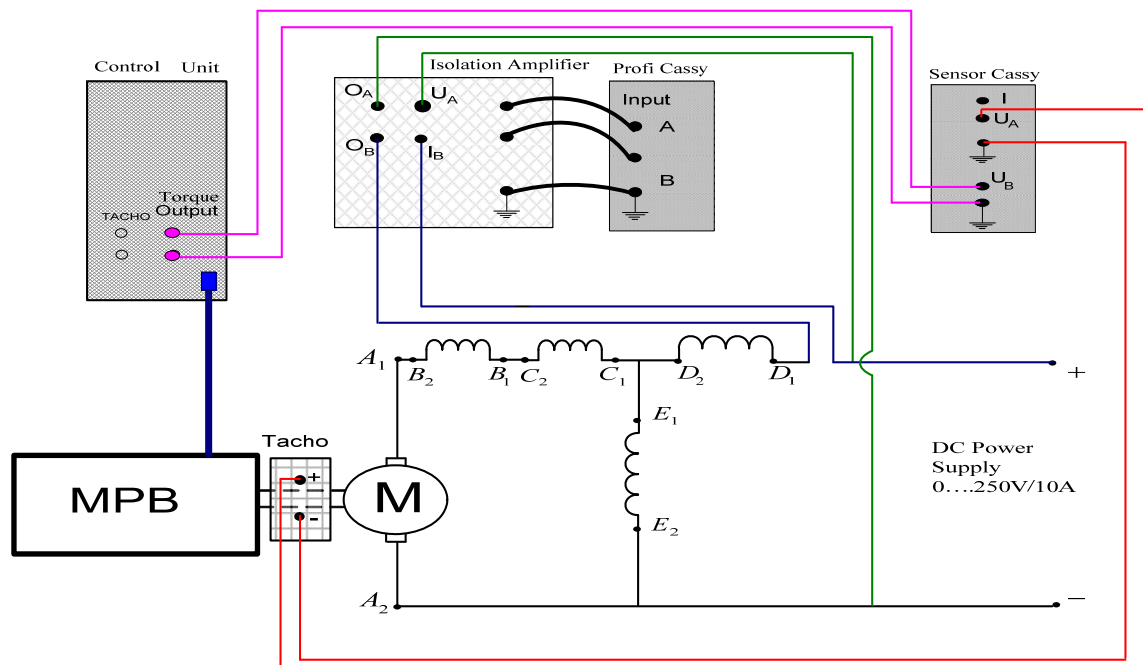

Figure 2: Cumulative Compound Motor Setup (D_1 - D_2)
16. Connect the circuit as shown in Figure 2 using Cassy measurement Connection for the indicated source current, applied voltage, rotor speed and applied torque